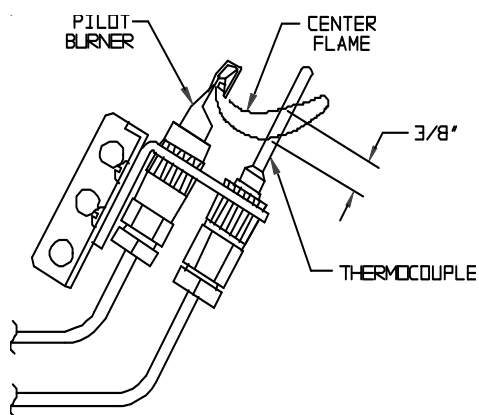

FIGURE 20: STANDING PILOT BURNER FLAME
- See Figure 20 for standing pilot. Pilot burner should produce single steady medium blue flame covering around 3/8" to 1/2" of thermocouple tip.